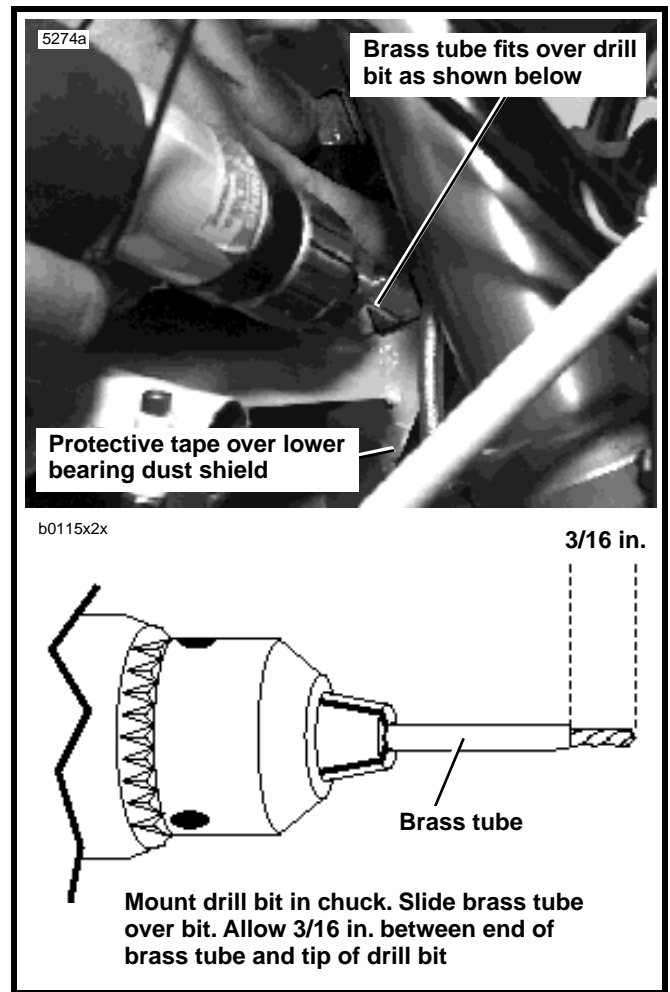

Figure 4. Drilling Steering Neck Tube
5. See Figure 4. Using drill bit and brass tube as shown, drill two holes into steering neck tube. Remove any filings left behind in the holes with compressed air.